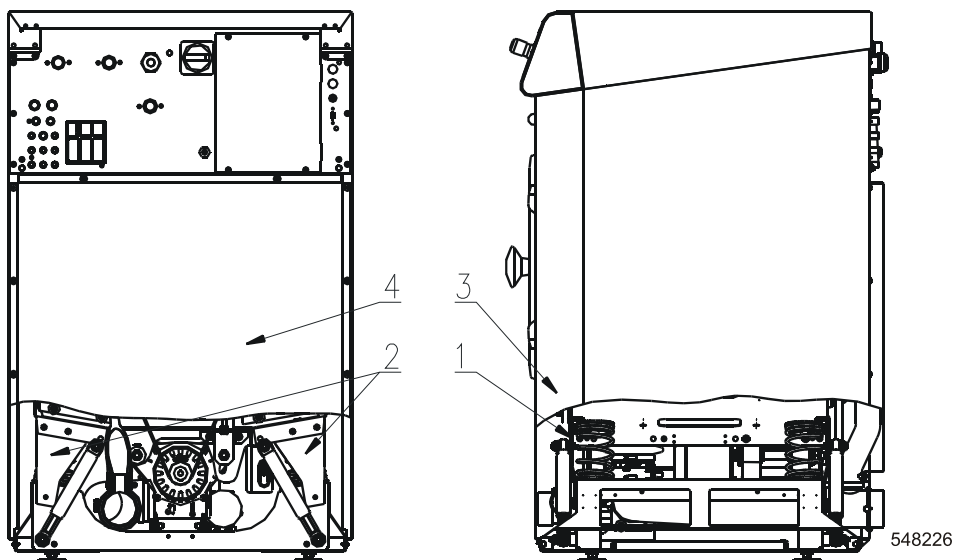

Fig.2
- Remove front and rear panel, see fig.2., pos.3, 4.
- Remove both front metal transport holders, pos. 1.
- Remove both rear transport holders, pos. 2.